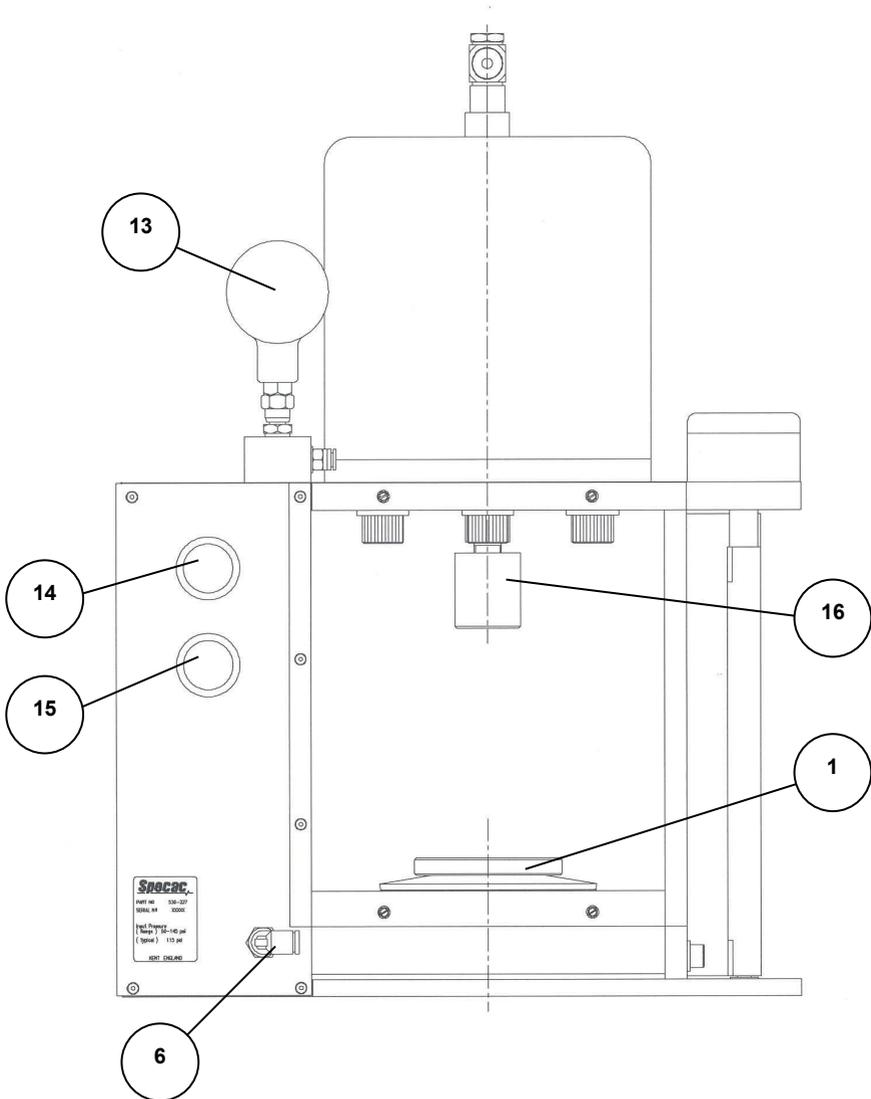

Figure 3. Rear View Of The Atlas™ Press Air 1.6T
- 4) Insert the second disc spring (2) ensuring that the concave side is facing UP into the recess.
- 5) Insert the third disc spring (2) ensuring that the concave side is facing DOWN into the recess.
- 6) Locate the lower bolster fitting (1) into all three disc springs (2) and the stainless steel ring (3).
- 7) Close the safety guard front door (4).
The Atlas™ Press Air 1.6T is now ready to be attached to a suitable compressed air supply line. The main inline air supply push fit hose connector (6) at the rear and base of the press accepts 6mm outside diameter nylon tubing. (See **Figure 3** page 11 - ensure you connect with suitable pressure tubing). The tubing is simply pushed into the connector and is gripped. To disconnect the tubing from the press at any time, push in the end of the connector and pull out the tube.